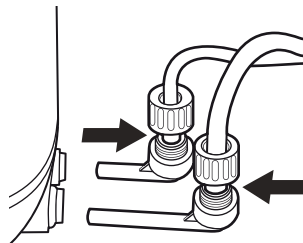

Figure 3.34 – Tubes Firmly on Barbed Fittings
4. If there is leaking at either the inlet or outlet connectors at the filter base, turn off the kitchen faucet. Remove the tubing fitting nuts and ensure that the tubing is fully engaged on the barbed fittings (see Figure 3.34). Re set the tubing, tighten the fitting nuts, turn kitchen faucet on and check for leaks again.